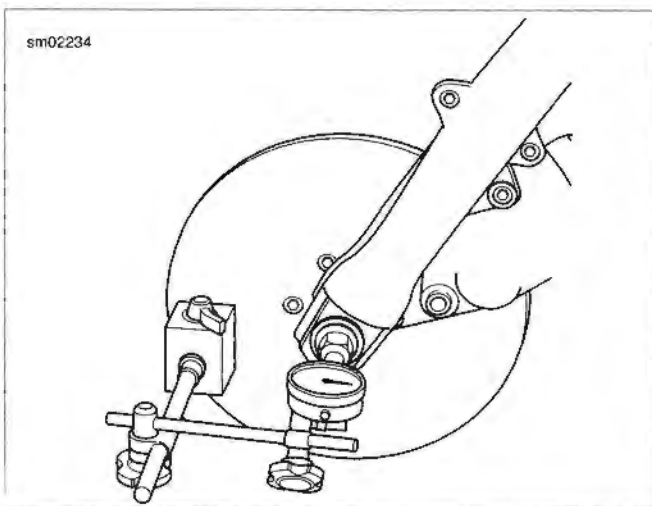

Figure 2-11. Wheel Bearing Inspection (Front Wheel Shown)
3. See Figure 2-11. Mount a magnetic base dial indicator to the brake disc with the dial contact point on the end of the axle.